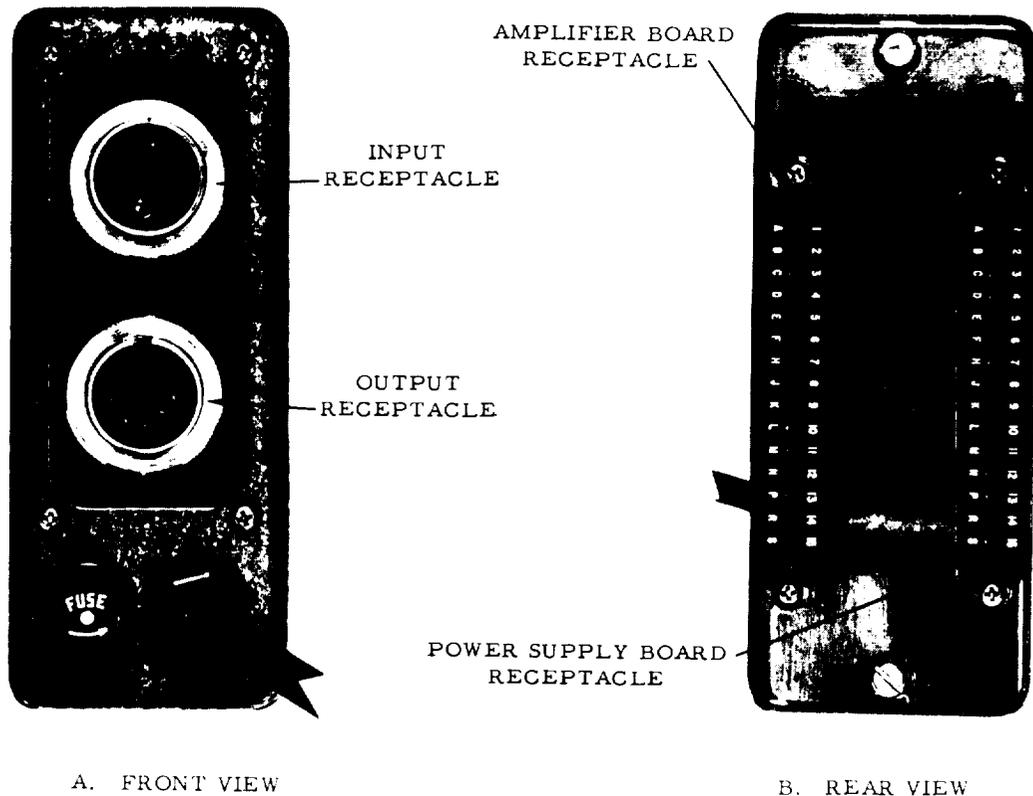

Figure 2. Single Unit Adapter
1.2.3 A single model 1300 amplifier can be used in conjunction with a Single Unit Adapter, Cubic Part No. 87-1012-1 (figure 2). One or more can be used with a Cubic Model 1390 Rack Mount Assembly (figure 3) which provides a bench-mount or standard EIA rack-mount capability for accommodating up to eight amplifiers. In both cases the circuit board connectors for the amplifier extend beyond the rear of the amplifier case and plug into the mating receptacles on the front of the single-unit adapter or at the rear of the rack mount assembly. Signal input and output receptacles, the power cable, and a fuseholder are located on the rear panel of the single-unit adapter (B, figure 2). Similar arrangements are provided for the rack mount assembly (figures 3 and 4). The frontispiece illustrates a rack-mount assembly with eight amplifiers installed.